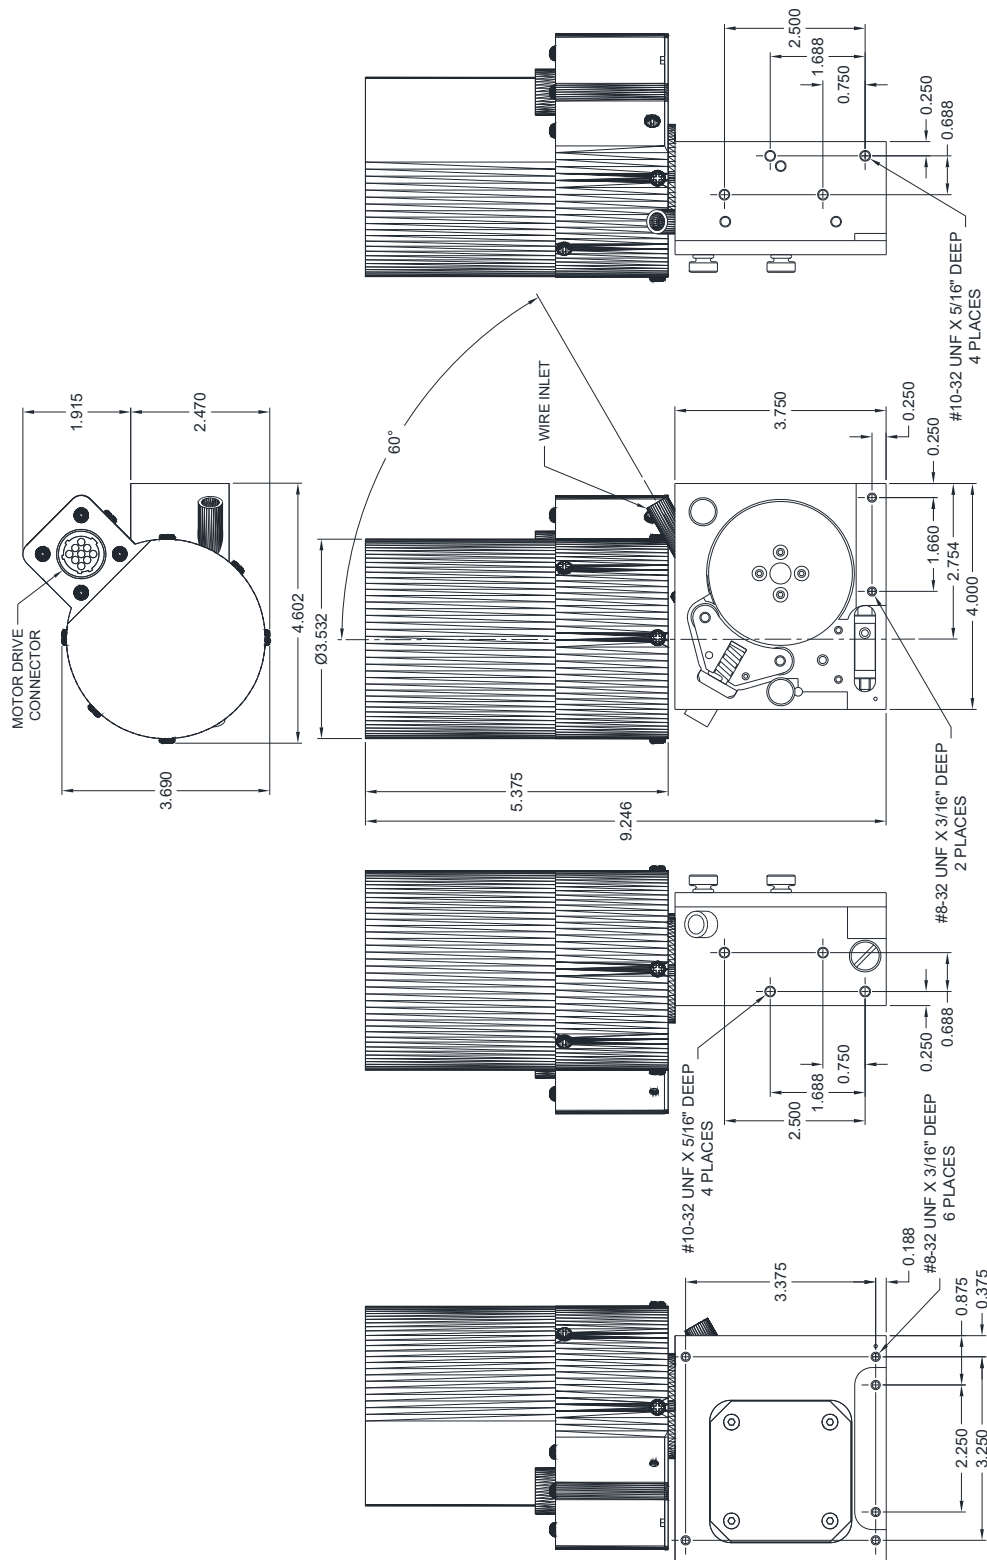

Figure 2 – Standard Speed Opposite Hand Capstan Mounting Dimensions
- 2.1 The WF-200 capstan wire feeder has several mounting brackets, which can be used to adapt the WF-200 for a user specific application. Figure 1 shows the basic mounting dimensions and hole patterns for the WF-200 Standard Hand Capstan. Figure 2 shows the basic mounting dimensions and hole patterns for the WF-200 Opposite Hand Capstan. Refer to Appendix A for option mounting brackets. Due to the variety of applications the user may wish to fabricate a custom bracket for the particular installation.